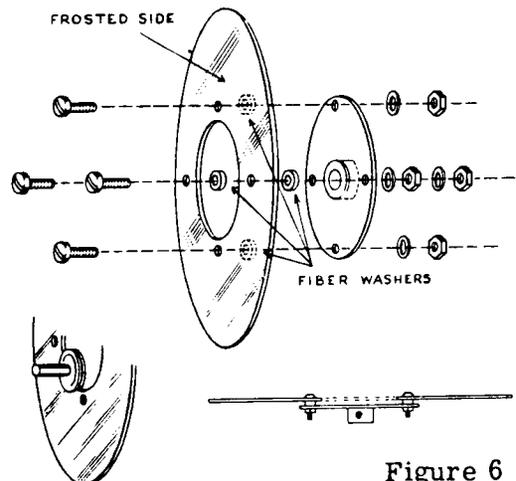

Figure 6
- ( ) Assemble the tuning dial as shown in Figure 6, using 3-48 screws, lockwashers and nuts with 1/16" fiber spacing washers.